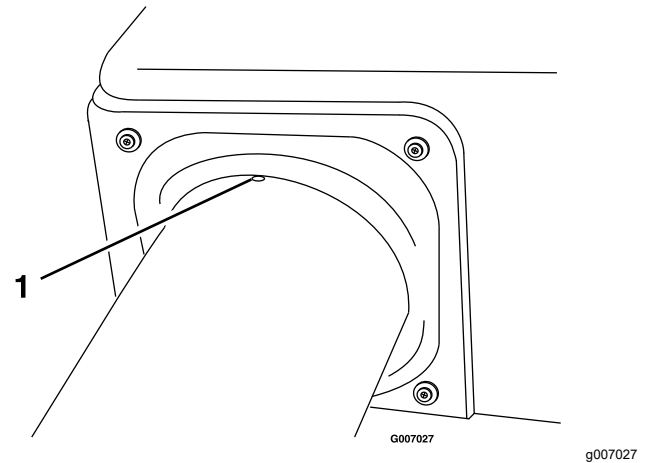

Figure 33
4. Align the dimple in the upper tube equally between the screws securing the hopper seal to the hopper (Figure 33).
- 8. Verify that the dimple from Figure 33 is still in place.